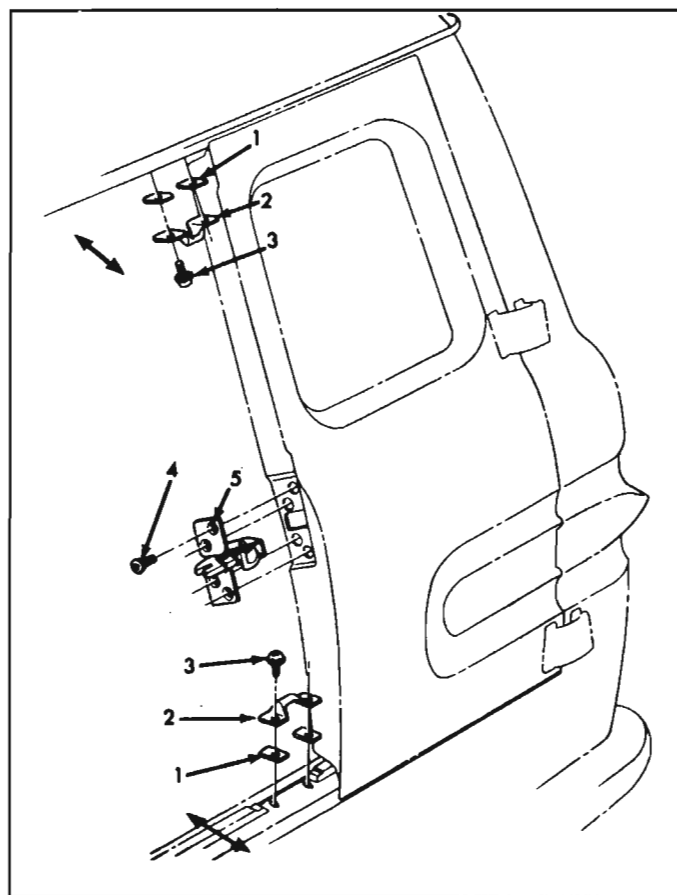

Fig. 10-79a—Rear Door-Lock Assembly
1. Remove lock to door retaining screws (fig. 10-79a).
Shim between the striker plate and striker with one or more shim spacers (fig. 10-79a). Dimension from center line of striker to base of opening in lock cam should be approximately .34".
Shim between the striker plate and door panel using one or more spacers on the left rear door (fig. 10-79a).